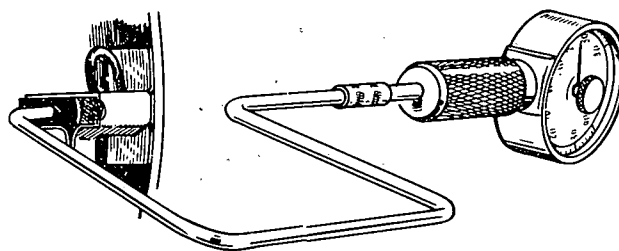

FIGURE 47. BRUSH SPRING TENSION TEST
9. **Inspection for Brush Spring Tension.** Measure brush spring tension with a tension meter as shown in Figure 47. Push the brush and take a reading just as the brush projects a little from the brushholder. On a new brush the spring tension should be 29 to 38 ounces.